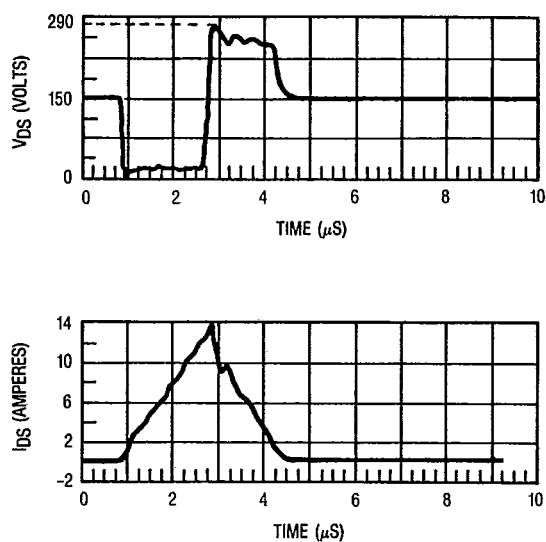
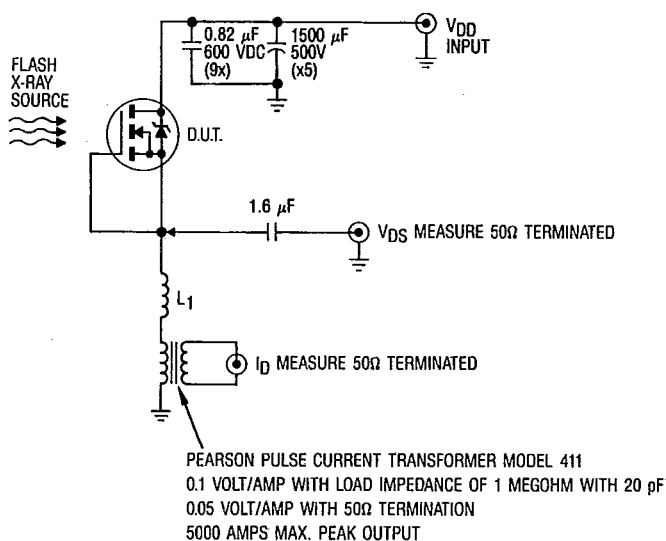

Fig. 10 — Typical Transient Response of Rad
Fig. 12 — High Dose Rate (Gamma Dot)
High dose rate (gamma-dot) testing is done using a dose rate set at $1.5-2.0 \times 10^{12}$ rads (Si)/sec. The device is exposed to this rate with 60% of its full rated breakdown voltage applied. Photocurrent and transient voltage waveforms are shown in figure 10. With 60% of the rated breakdown voltage applied, the device will survive the maximum rated di/dt . The device performance is presented in table 2. The test circuit used for this test is shown in figure 12.
⑧ This test is performed using a flash x-ray source operated in the e-beam mode (energy ~2.5 Mev). See figure 12.
⑨ Study sponsored by NASA. 210 volts was the maximum available voltage source during the test
⑩ To be determined